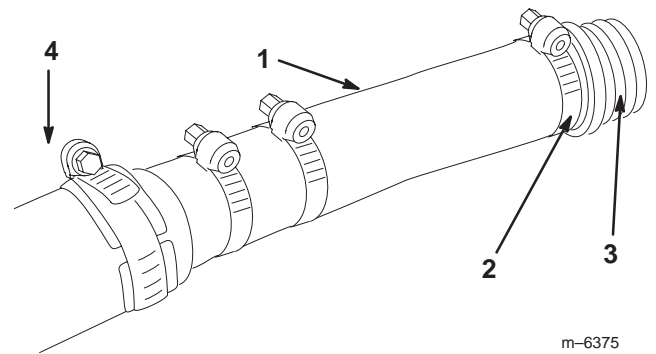

Figure 5
4. Slide a large ratcheting hose clamp (removed from the hose in step 2) over the hose and install the fitting all the way into the hose, securing it with the hose clamp (Fig. 5).